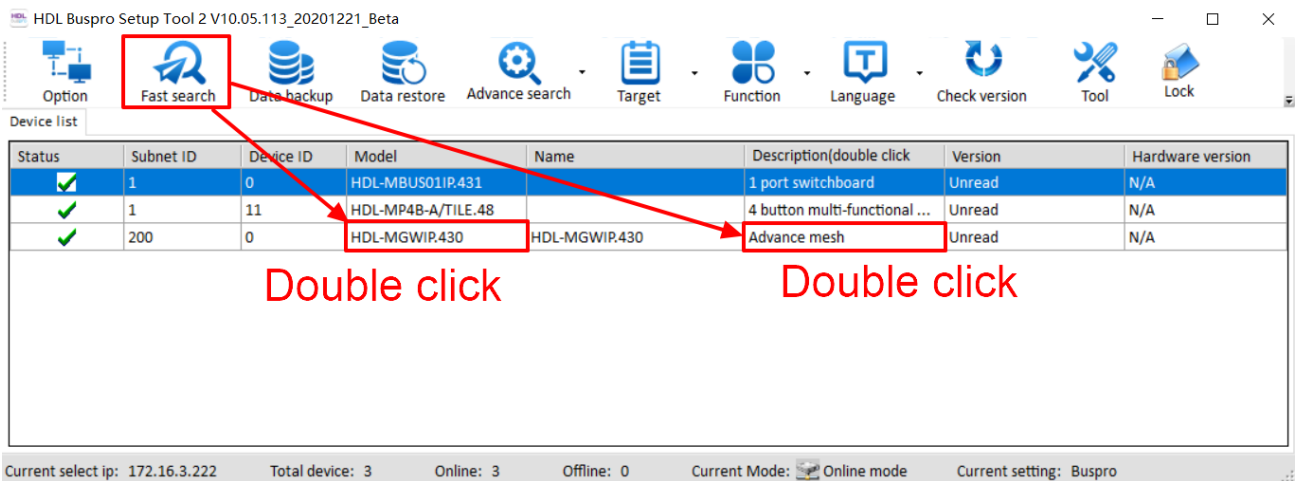

Figure 2-1 Click “Fast Search”
1. As shown in Figure 2-1, connect the panel to the system, and open Buspro Setup Tool 2 in the computer.